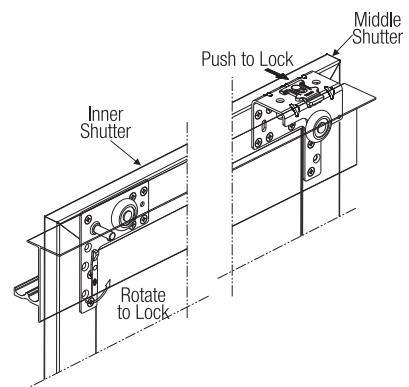

Fig. 6.
- 6.3. Hang the shutters to the top track & lock the shutters as shown in Fig.6.
- 7.3. Hang the shutters to the top track & lock the shutters as shown in Fig.6.